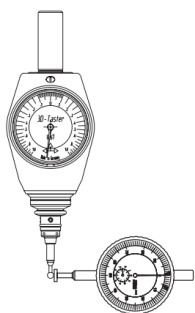

Figure 2
- Set the indicator to zero (Figure 2)